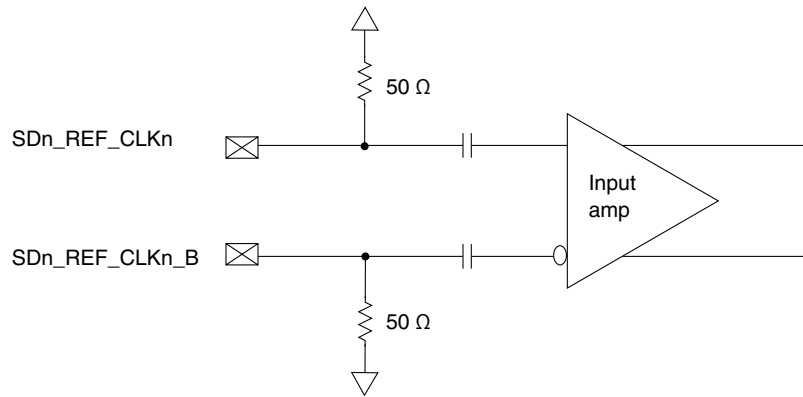

Figure 33. Receiver of SerDes reference clocks
- The SDn_REF_CLKn and $SDn_REF_CLKn_B$ are internally AC-coupled differential inputs as shown in Figure 33. Each differential clock input (SDn_REF_CLKn or $SDn_REF_CLKn_B$) has on-chip $50\ \Omega$ termination to $SGNDn$ followed by on-chip AC-coupling.